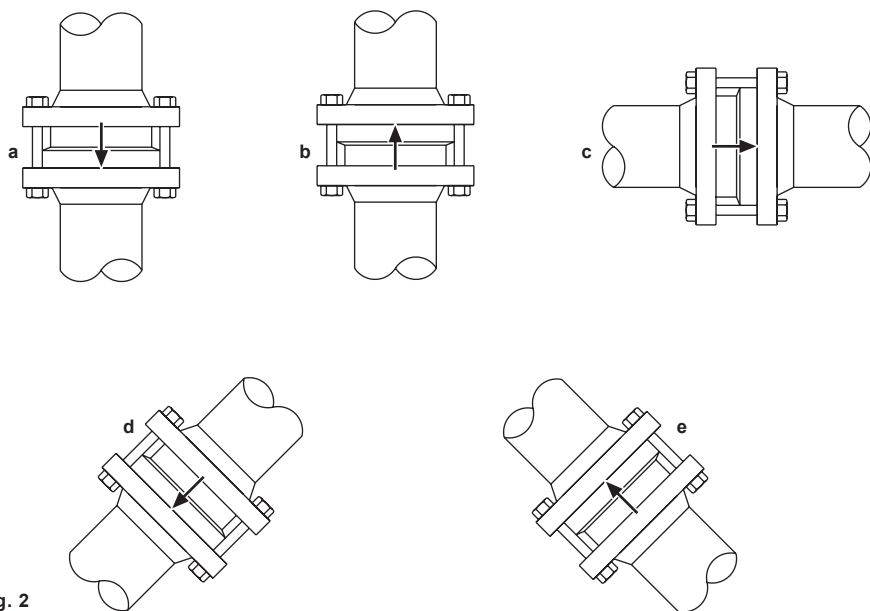

Fig. 2
- 3.3** Disc check valves simply fit between two pipe flanges (see Figure 2). Standard gaskets are used either side of the valve together with longer bolts or studs. Note: Flanges, bolts (or studs), nuts and joint gaskets are to be provided by the installer. Normal sensible flange bolting practice should be followed e.g. torque tightening the bolts in opposite sequence.